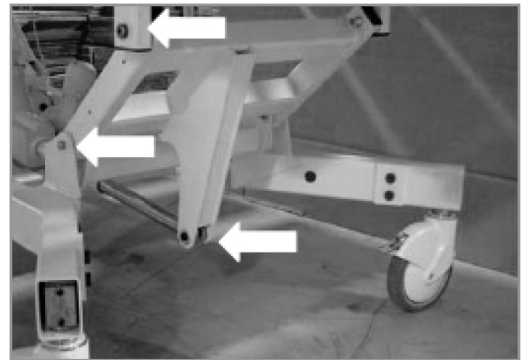

Figure 23
2. Oil hinge points (sample indicated by arrows in Figure 23).